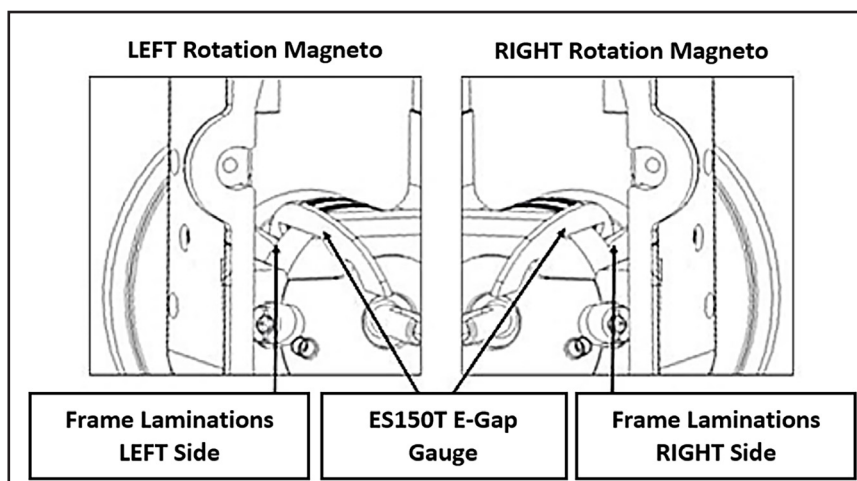

Figure 6.11 – Frame Laminations
- (8) For LEFT rotation magnetos: Insert the ES150T “E” Gap Gauge I into the slot marked “L”. Turn the rotor shaft until the ES150T “E” Gap Gauge is held against the frame laminations on the left side of the magneto. For RIGHT rotation magnetos: Insert the ES150T “E” Gap Gauge into the slot marked “R”. Turn the rotor shaft until the ES150T “E” Gap Gauge is held against the frame (6) lamination on the right side of the magneto. Refer to Figure 6.11.